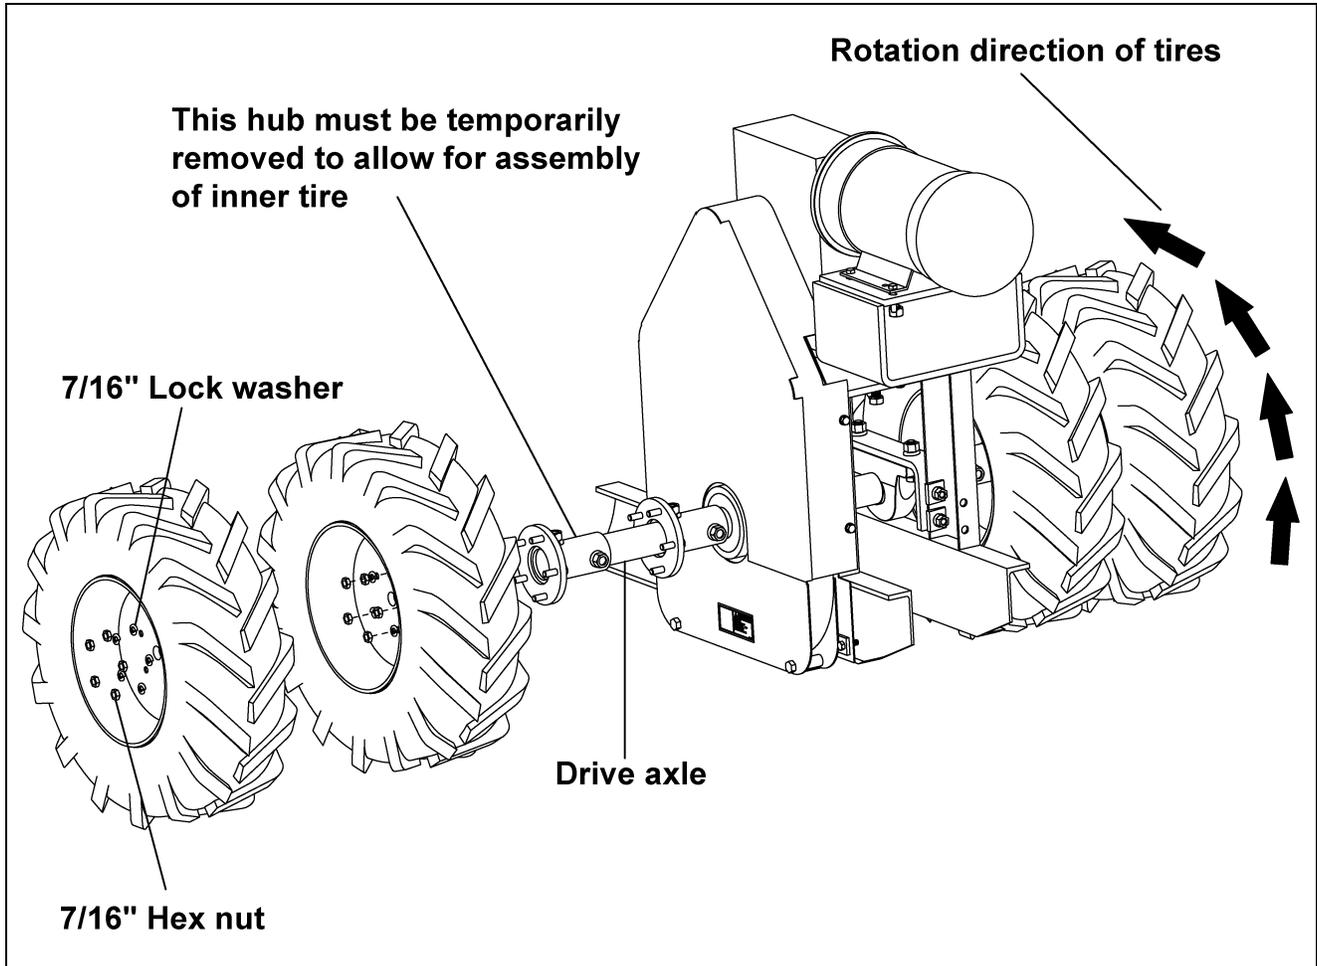

Figure 5Q
(See Figure 5Q.)
**NOTE:** Tires go on backwards as shown in Figure 5Q.